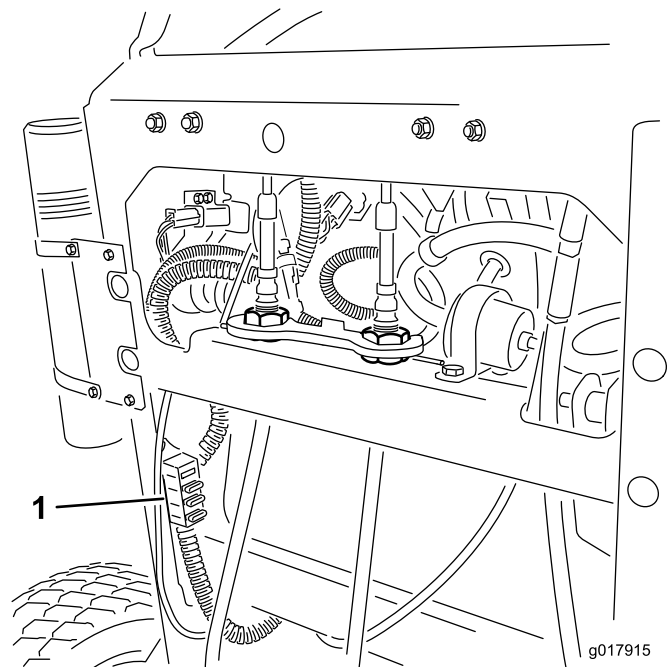

Figure 53
2. Pull out on the fuse to remove or replace it (Figure 53).
Note: Ensure that the correct-size fuse is installed Figure 53.